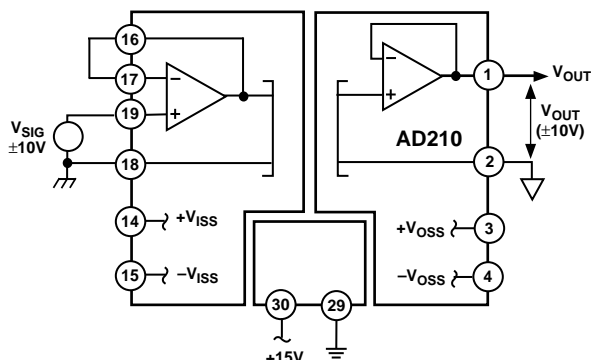
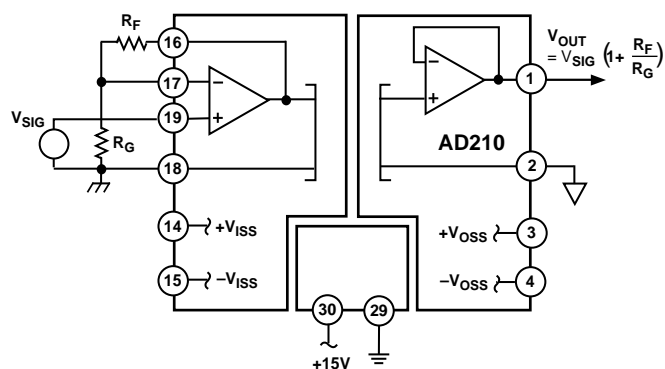

Figure 2. Basic Unity Gain Configuration
Figure 3. Input Configuration for  $G > 1$
**Input Configurations:** The basic unity gain configuration for signals up to  $\pm 10$  V is shown in Figure 2. Additional input amplifier variations are shown in the following figures. For smaller signal levels Figure 3 shows how to obtain gain while maintaining a very high input impedance.
The high input impedance of the circuits in Figures 2 and 3 can be maintained in an inverting application. Since the AD210 is a three-port isolator, either the input leads or the output leads may be interchanged to create the signal inversion.